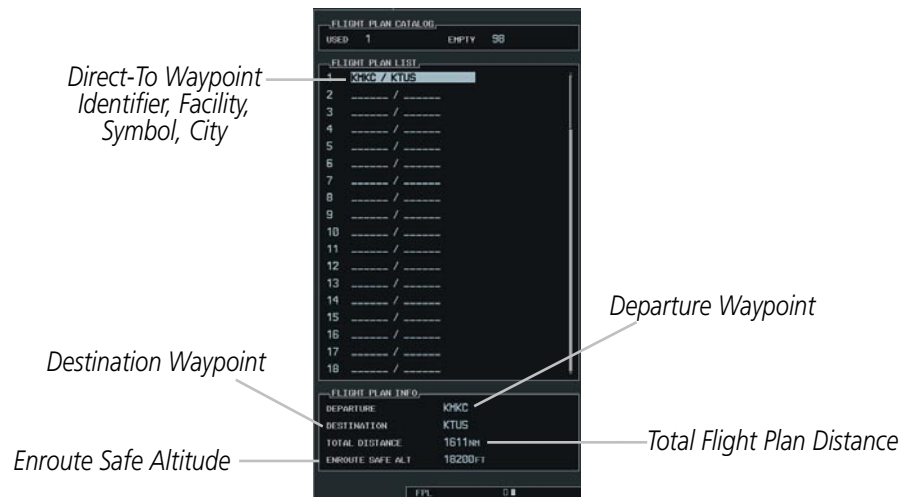

Figure 5-64 Flight Plan Information
- 3) The Flight Plan Information is displayed showing departure, destination, total distance, and enroute safe altitude information for the selected Flight Plan (Figure 5-64).